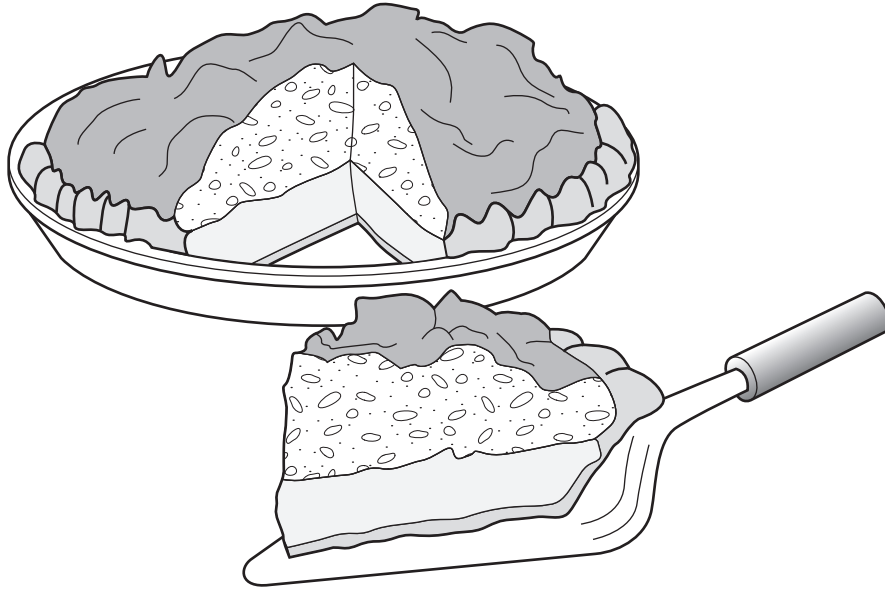

Fig. 4
Fig. 4 shows a lemon meringue pie and pie slice.
(a) Give **four** design requirements for a lemon meringue pie shown in Fig. 4. Justify each requirement.
- (b) Describe **two** examples where ergonomics has influenced the design of the pie slice as shown in Fig. 4.
- (ii) Describe, in detail, how the pastry case for the lemon meringue pie shown in Fig. 4 would be manufactured as a batch of 20. Include details of all ingredients and the scientific principles underlying the process. Use a flowchart and/or annotated diagrams to support your answer.